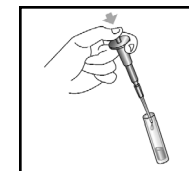

Figure 3
- Holding the minipet over the selected sample cup, depress the plunger to dispense the sample (figure 3).